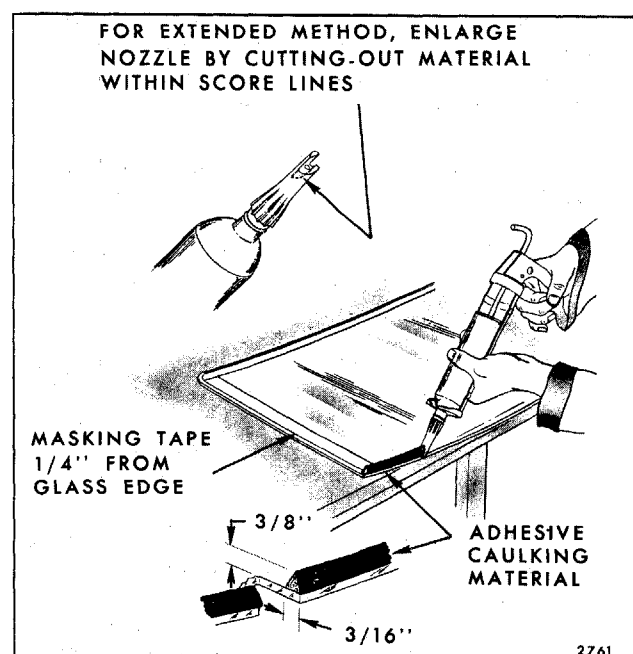

Fig. 11-10 - Adhesive Material Application - Extended Method
10. If desired, apply masking tape around inner surface of glass 6 mm ($1/4$ ") inboard from outer edge. On windshield installations, apply tape to top and sides only. Do not use tape across bottom. Removal of tape after glass installation will aid in clean-up and give a smooth, even edge to adhesive material (Fig. 11-10).
11. Nozzle furnished in kit is designed for short method. For extended method, enlarge nozzle opening by removing material within score lines as indicated in Figure 11-10. Do not notch nozzle beyond score lines.
14. With caulking gun and nozzle positioned as illustrated in Figure 11-10, carefully apply smooth continuous bead of adhesive material 9 mm (3/8") high by 5 mm (3/16") wide at base completely around inside edge of glass.